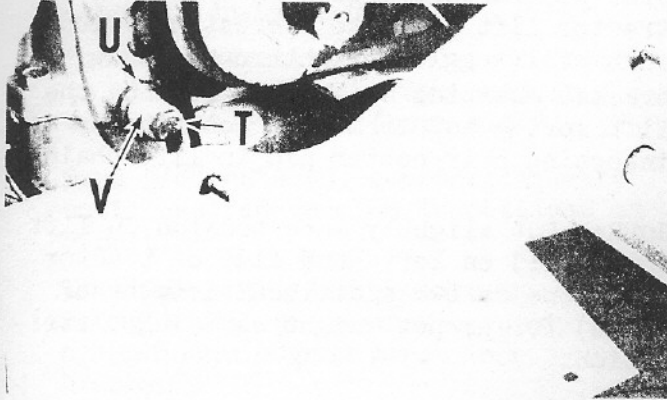

Fig. 9
Included in bag of parts is belt-popper (V) (Fig. 9). To install, remove engine belt-guard on left-hand side of tractor. Place two washers (U) and belt-popper over bolt (T) and screw onto side of engine block as shown (Fig. 9).